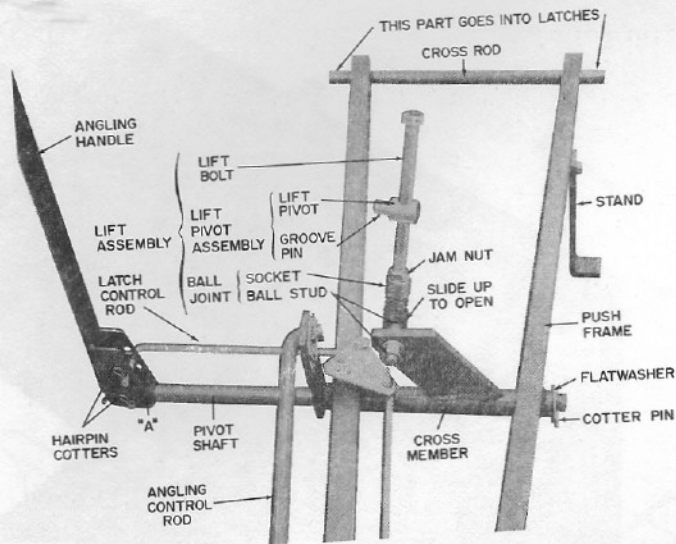

fig 5
2.12 Connect angling handle to pivot shaft using bottom center hole as in fig 5, with pin and hairpin cotter, Items 18 and 21. Put grip on handle. Note: Latch control rod, fig 5, is connected to handle after mounting on The Gravelly.
2.13 Bolt stand to push frame, Items 13, 39 and 40, as in fig 5. Do not over tighten; stand must pivot on bolt.
2.15 Place lift pivot on 7" bolt so that protruding groove pin points away from bolt head, fig 5. Run jam nut on bolt. Screw bolt into ball joint about half way. Tighten jam nut against ball joint.
2.16 Fasten ball stud to push frame crossmember as in fig 5; ball to rear of mounting plate.
4.6 Connect angling handle to latch control rod using middle hole in handle and hairpin cotter as in fig 5.
5.3 By selecting various hole combinations for the pivot shaft and latch control rod, the handle can be positioned to suit the operator. Example: using hole "A", fig 5, will bring the handle closer to the operator. The handle must always be clear of the foot rest of The Gravely.